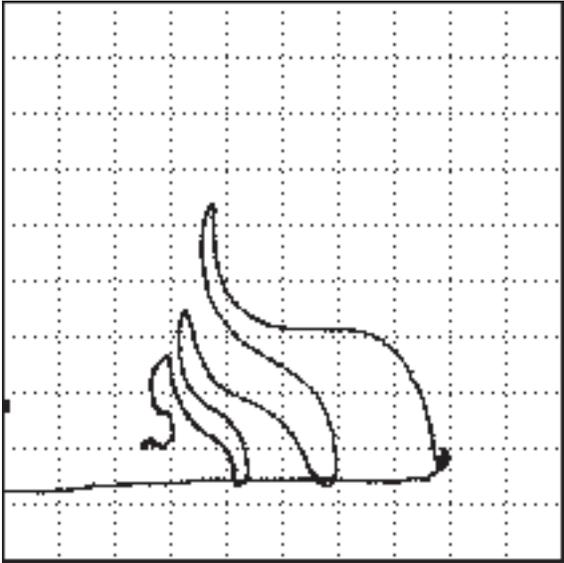

Figure 4-11.
42. Increase the V-Gain 1 to bring the signal back to the liftoff line. (see **Figure 4-11**, next page).